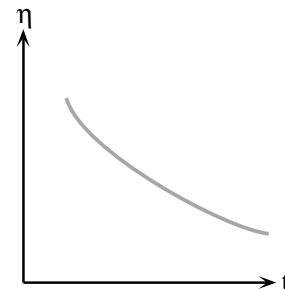

Figure 4-6
**THIXOTROPY:** As shown in Figure 4-6, a thixotropic fluid undergoes a decrease in viscosity with time, while it is subjected to a constant shear rate.